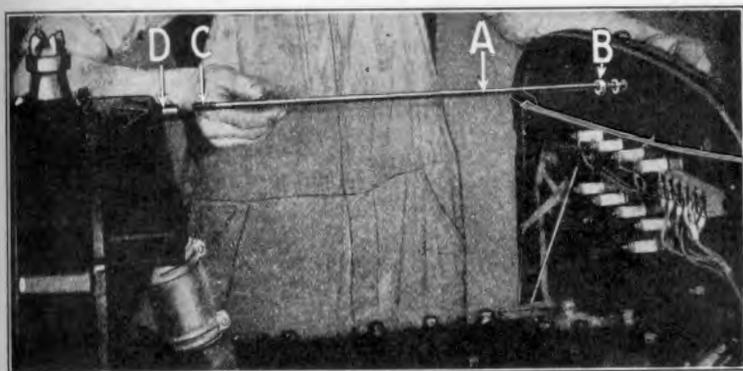

Fig. 105
- (g) Install radiator rod (See "A" Fig. 105), by inserting it through dash and placing lockwasher and nut "B" over end of rod.